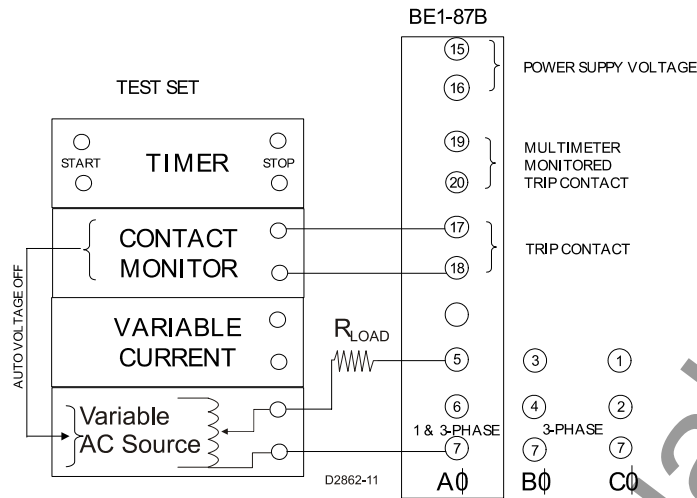

Figure 5-4. Pickup Voltage Test Setup
| Figure 5-4. Pickup Voltage Test Setup | 5-5 |
The pickup voltage test (Figure 5-4) verifies the rms firing point of the SCRs and seals through the primary of T1 effectively shorting out the test source voltage. As a result, the following test should be performed with a voltage source that will automatically turn off when the trip contact between terminals 17 and 18 closes.
1. Set the 87B Pickup Voltage Control to 50 volts. Set the Pickup Current Control to 0.25 amperes. The 87B Test Pickup Voltage should be 100 volts rms symmetrical or twice the Pickup Voltage setting (this is the rms test value equivalent to a fully offset waveform). The CT OV LED will light during this test, as the Alarm Pickup Voltage will be exceeded. Connect the relay as per the test diagram in Figure 5-4. Verify that the CT OV and Trip LEDs are reset.
3. Set the Pickup Voltage Control to 100 volts and the Pickup Current Control to the 0.25 amperes. As described above, the Test Pickup Voltage will be twice the selector switch voltage or 200 volts rms symmetrical. The CT OV LED will light during this test, as the Alarm Pickup Voltage will be exceeded. Connect the relay as per the test diagram in Figure 5-4. Verify that the CT OV and Trip LEDs are reset.
1. Connect the test circuit as shown in Figure 5-4.
3. Repeat the test several times to verify consistent trip times. Verify the closing time of the second trip contact by moving the timer stop leads shown in Figure 5-4 from terminals 17 – 18 to 19 – 20 and repeat the Trip Time Test.